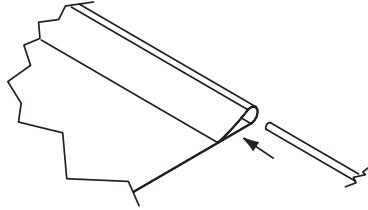

Figure 8
- ① Move frame assembly out of the way, unroll viewing surface and place on smooth/clean surface. Orient viewing surface so that folded side of hem is visible.
- ② Insert plastic tubing inside pocket formed by hem on all 4 edges of viewing surface (see Fig. 8).